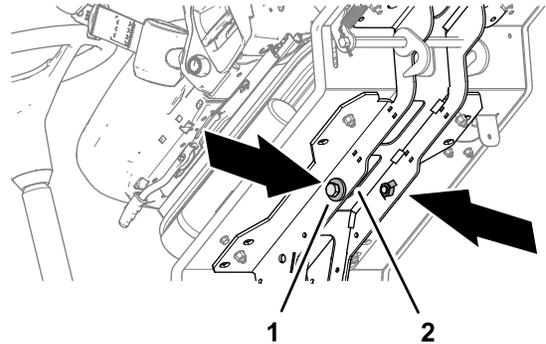

Figure 34
3. Tilt the platform forward and remove the 2 bolts 12 x 40 mm and 2 washers 12 mm stored in the platform support rails (Figure 34).